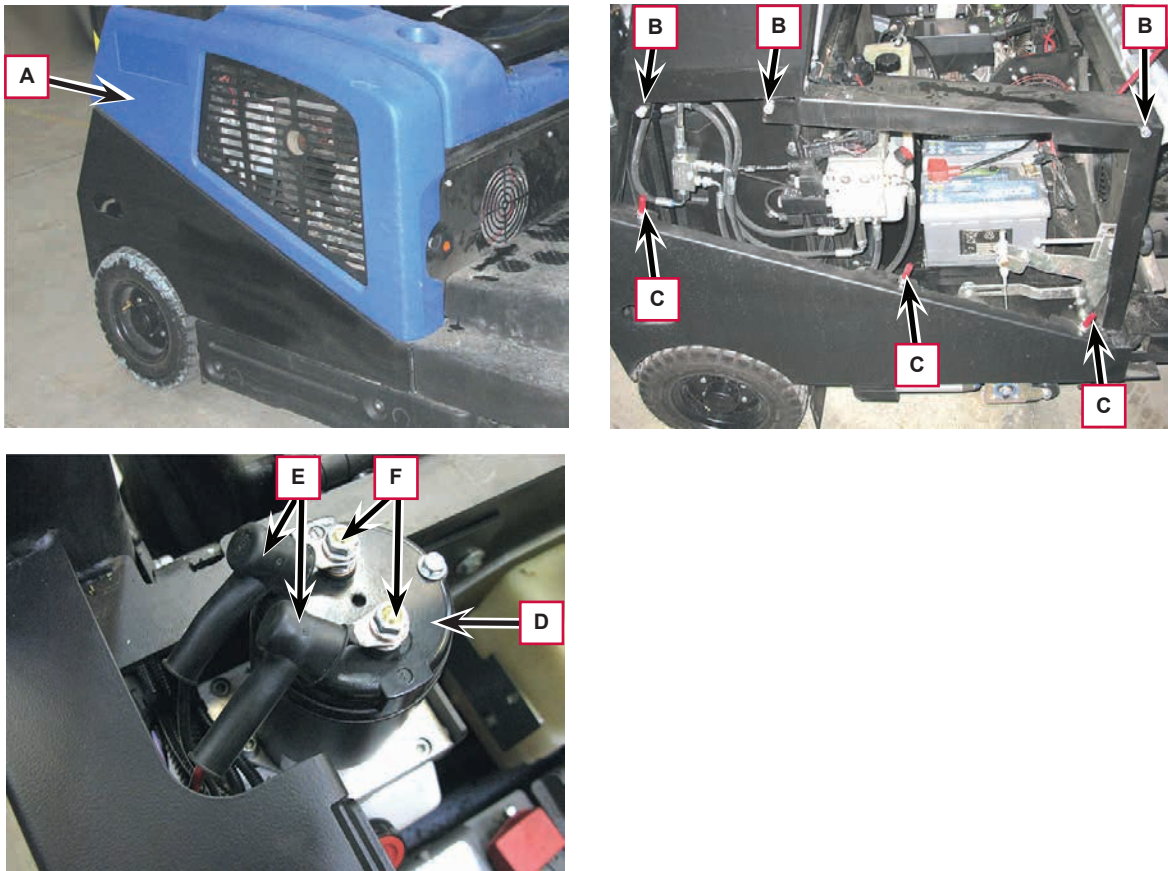

Figure 11
6. Lift and remove the right side panel (A, Figure 11), disengaging it from the upper (B) and lower (C) fasteners.
7. Working above the hydraulic unit (D), free the caps (E) and the disconnect the electrical terminals (F) after unscrewing the corresponding nuts.